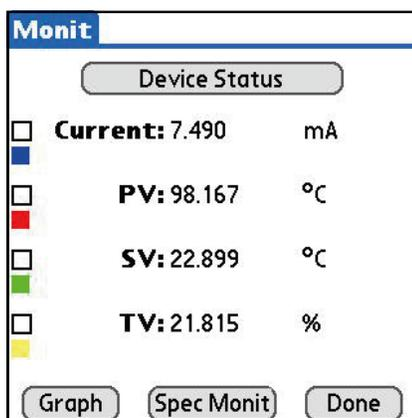
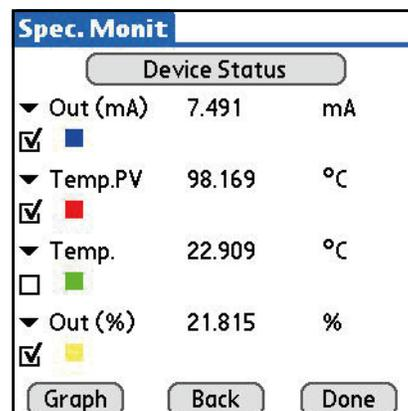

Fig.12 - Variable Selection
Fig.13 - Specific Monitor
1. From the Live List screen, enter the desired sample time in minutes (Figure 12) .
2. Select the "Start Logging" button to go to the logging screen (Figure 13).
2. Select the check boxes next to the variables you wish to graph. The color underneath each check box corresponds to the line color of the graph (Figure 12). If the device supports command 33 of the HART specification, variables other than the default may be graphed by selecting the "Spec Monit" button. From the specific monitor screen, 4 variables may be selected from the 4 drop down lists. Check the boxes for the variables you wish to graph (Figure 13).